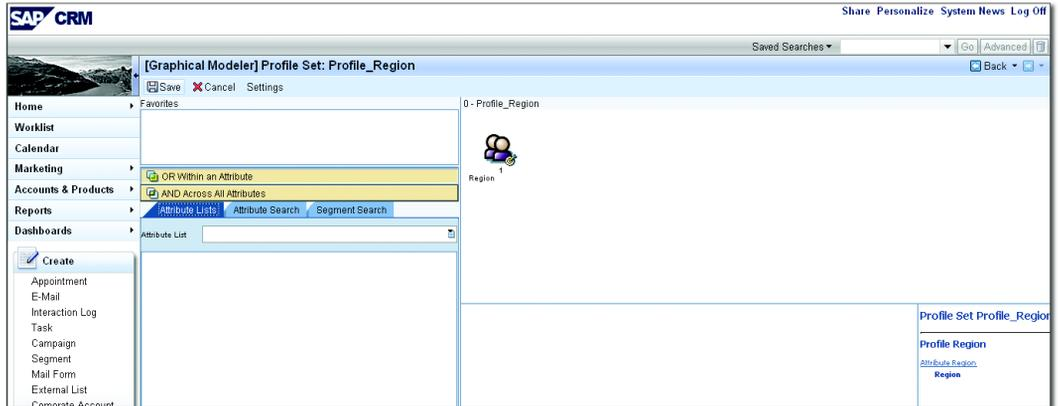

Figure 5.53 Building a Target Group
12. Again right-click the region icon as shown in Figure 5.53 to select BUILD THE TARGET GROUP. You can build the target group in a foreground or back-